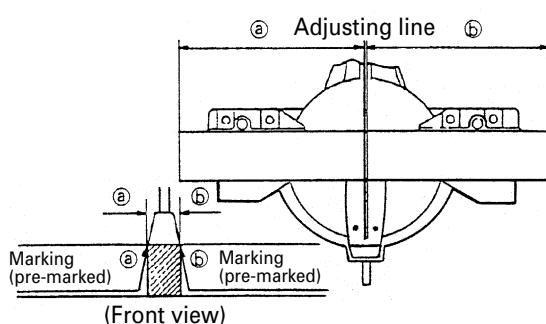

Fig. 22
- (1) As shown in Fig. 22 the width of the saw blade is the width of the cut. Therefore, slide the workpiece to the right (viewed from the operator's position) when length ⑥ is desired, or to the left when length ⑤ is desired.